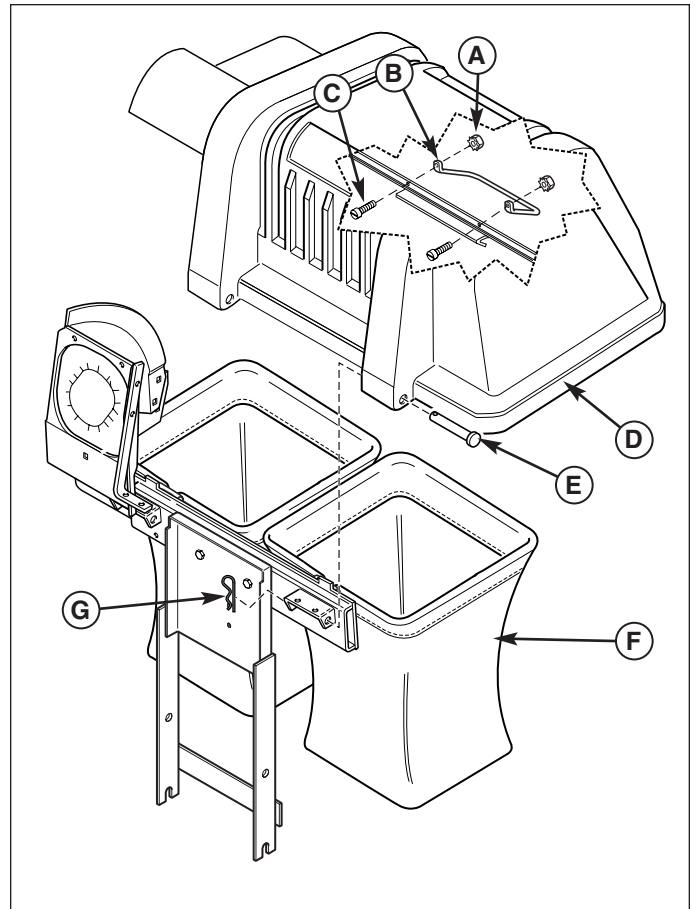

Figure 7. Install Catcher
1. Hang the bags (F, Figure 7) on the horizontal support.